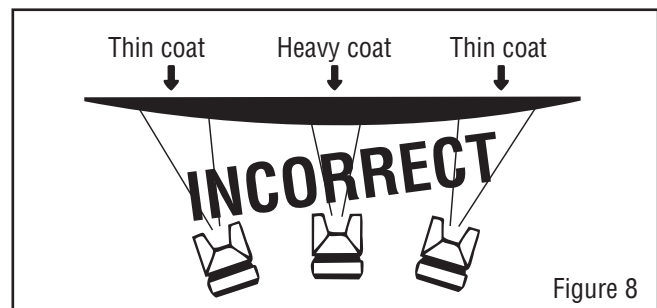

Figure 8
NOTE Always keep spray gun (A) moving parallel to the surface being covered while spraying. Stopping gun movement in mid-stroke will cause a build-up of paint and will result in runs. Do not fan the gun from side to side while painting. This will cause a build-up of paint in the center of stroke and an insufficient coating at each end. (See Figure 8)